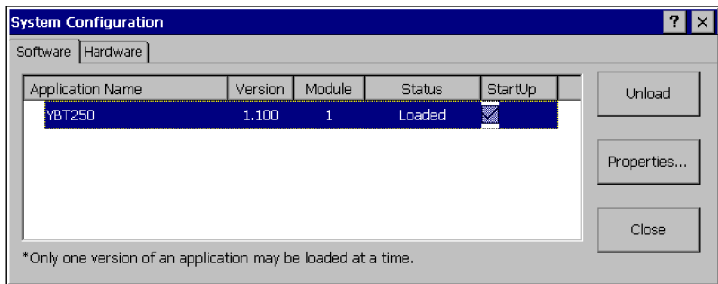

Figure 2-4: Setting the StartUp Application
2. On the Software tab, select the StartUp checkbox for the YBT250. See Figure 2-4.